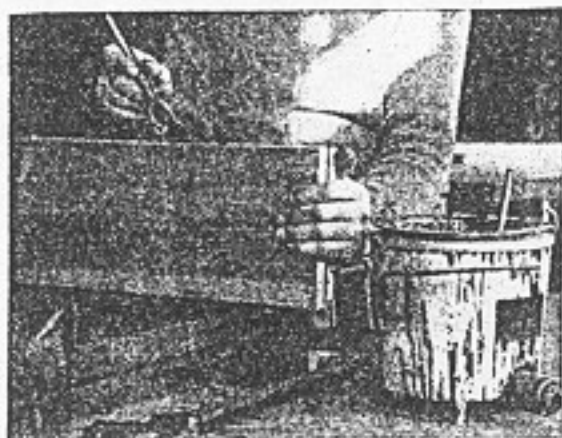

Fig. 268. Applying glue simultaneously to the edges.
2. Glue is applied simultaneously to the edges by holding the faces of the boards together so that the edges are in a horizontal position. The work must be done rapidly to prevent chilling the glue (Fig. 268).